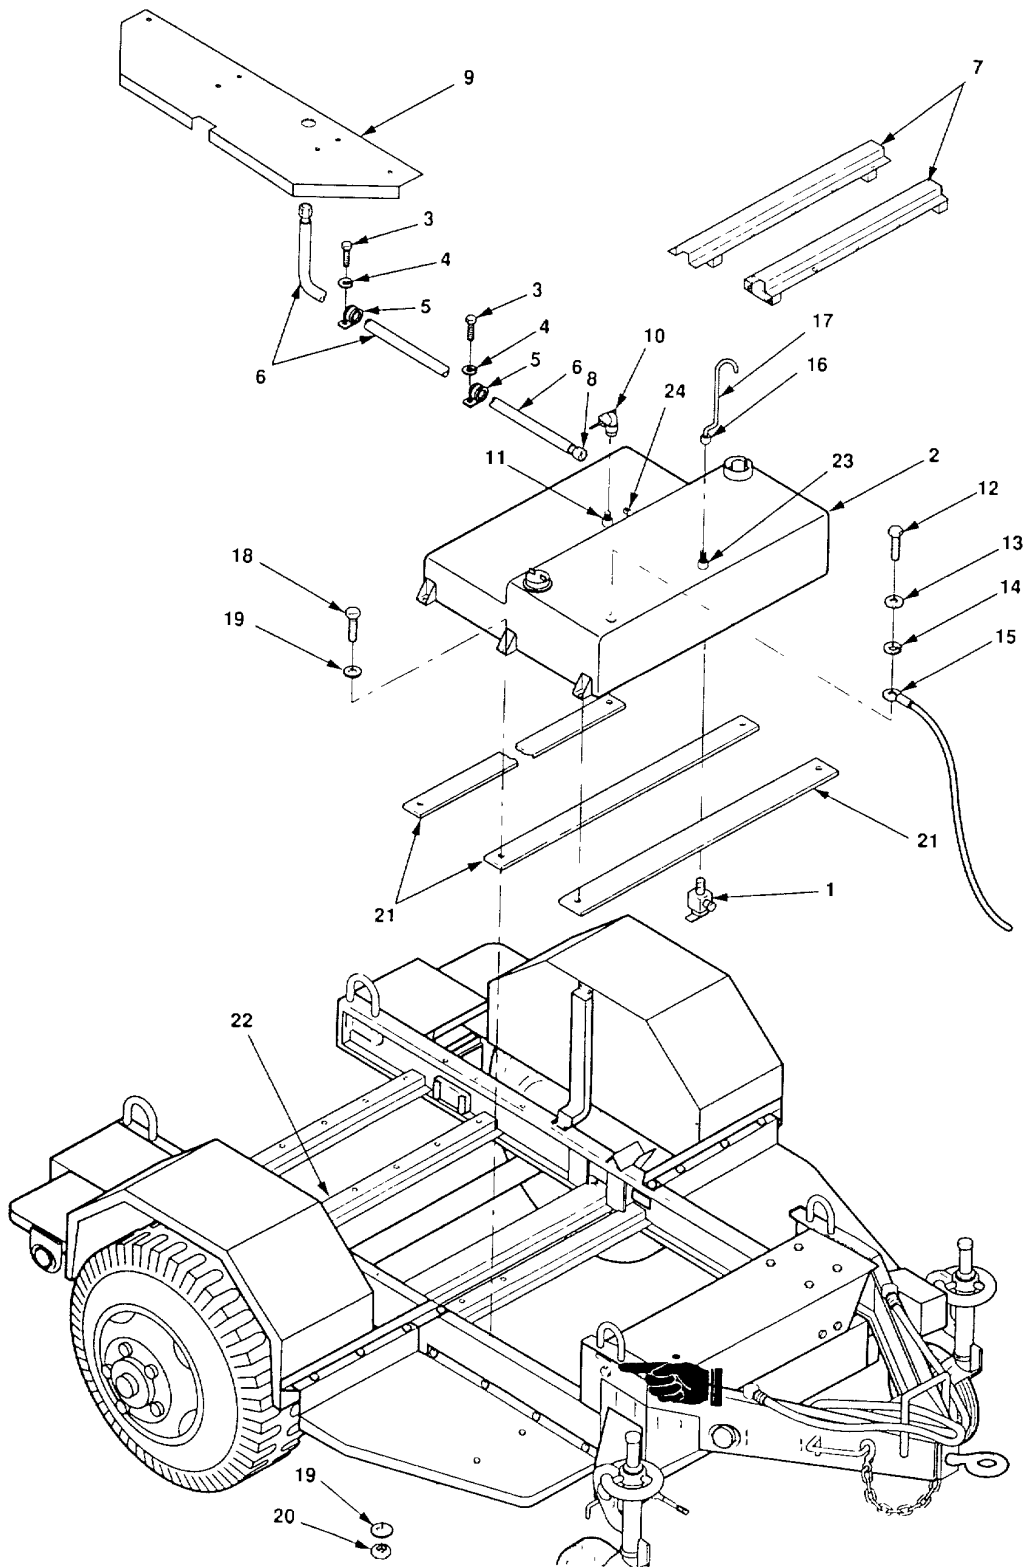

Figure 5-10. Fuel Tank and Fuel Line Replacement.
5-12. Fuel Tank and Fuel Line Replacement. (See figure 5-10)
- (1) Open drain cock (1, figure 5-10) and drain fuel from fuel tank (2) into a container.
- (2) Remove generator set (paragraph 5-2).
- (3) Remove three screws (3), three lockwashers (4) and three loop clamps (5) attaching fuel line (6) to front and middle-front generator set supports . Loosen fitting (8) on fuel line and disconnect fuel line from fuel tank . Pull fuel line out of curbside walkway (9).
- (4) Remove front and middle-front generator set supports (7) (paragraph 5-16).
- (5) Unplug P4, P7 fuel cable (10) from fuel level sensor (11) on fuel tank (2).
- (6) Remove screw (12), lockwasher (13) and flat washer (14) and remove ground wire (15) from fuel tank (2).
- (7) Loosen nut (16) on fuel tank vent tube (17) and remove vent tube from fuel tank (2).